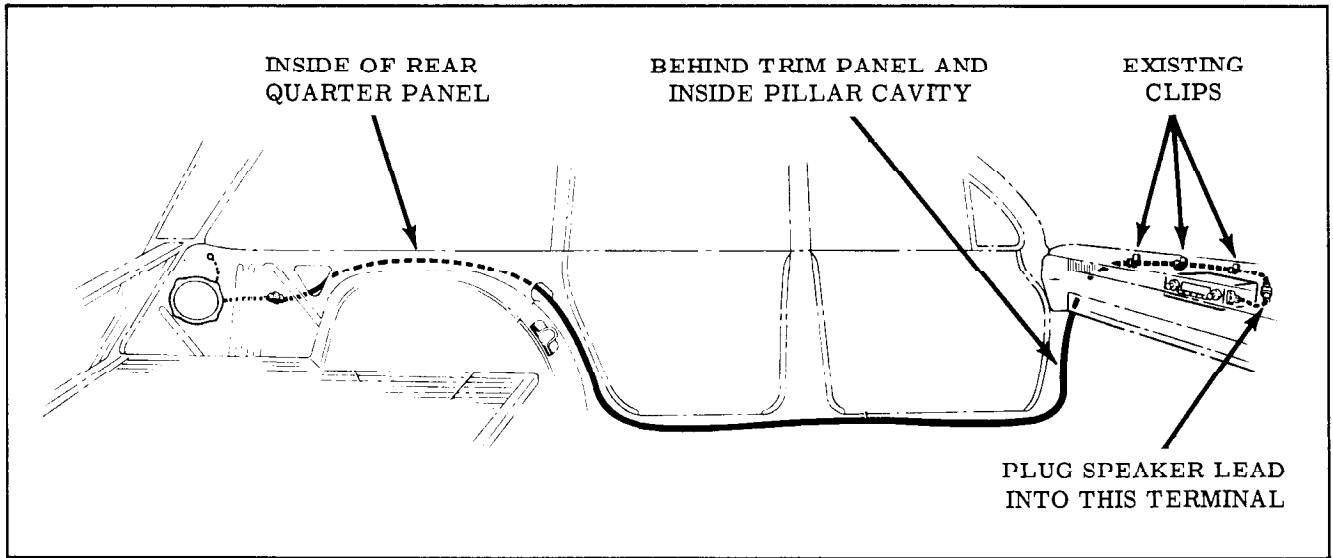

Fig. 15-19 Rear Seat Speaker Lead (Fiestas)
4. To install, reverse the removal procedure. To replace the speaker lead, refer to Fig. 15-19.